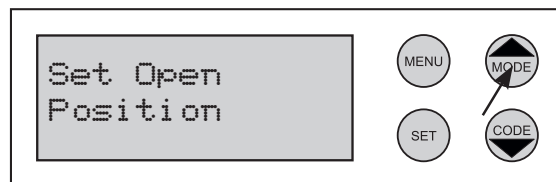

Fig. 21
- 1 With the door open approximately half way, make sure that the drive motor is engaged. The display will show **Set Open Position** (Fig. 21).